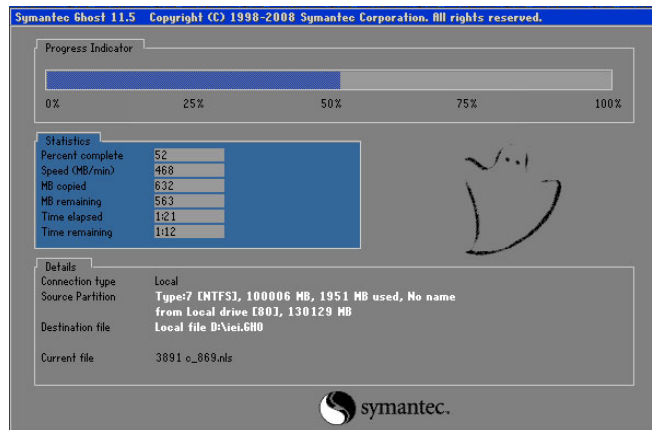

Figure A-27: Image Creation Complete
Step 7: The Symantec Ghost starts to create the factory default image (**Figure A-27**).